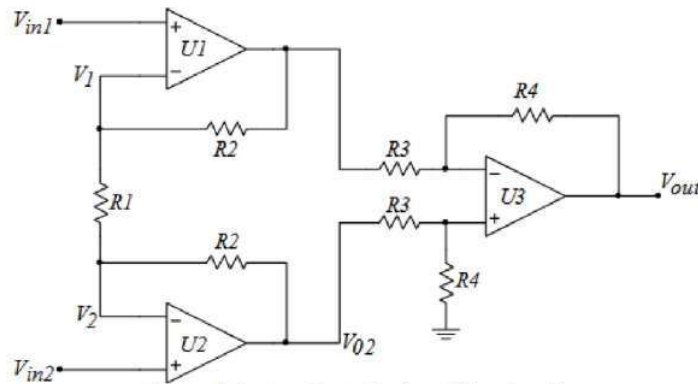

Figure 4. Instrumentation Amplifier circuit
Figure 4 shows our modified differential amplifier called an instrumentation amplifier (IA). Op amps U1 and U2 act as voltage followers for the signals V_{in1} and V_{in2} which see the infinite input resistance of op amps U1 and U2. Assuming ideal op amps, the voltage